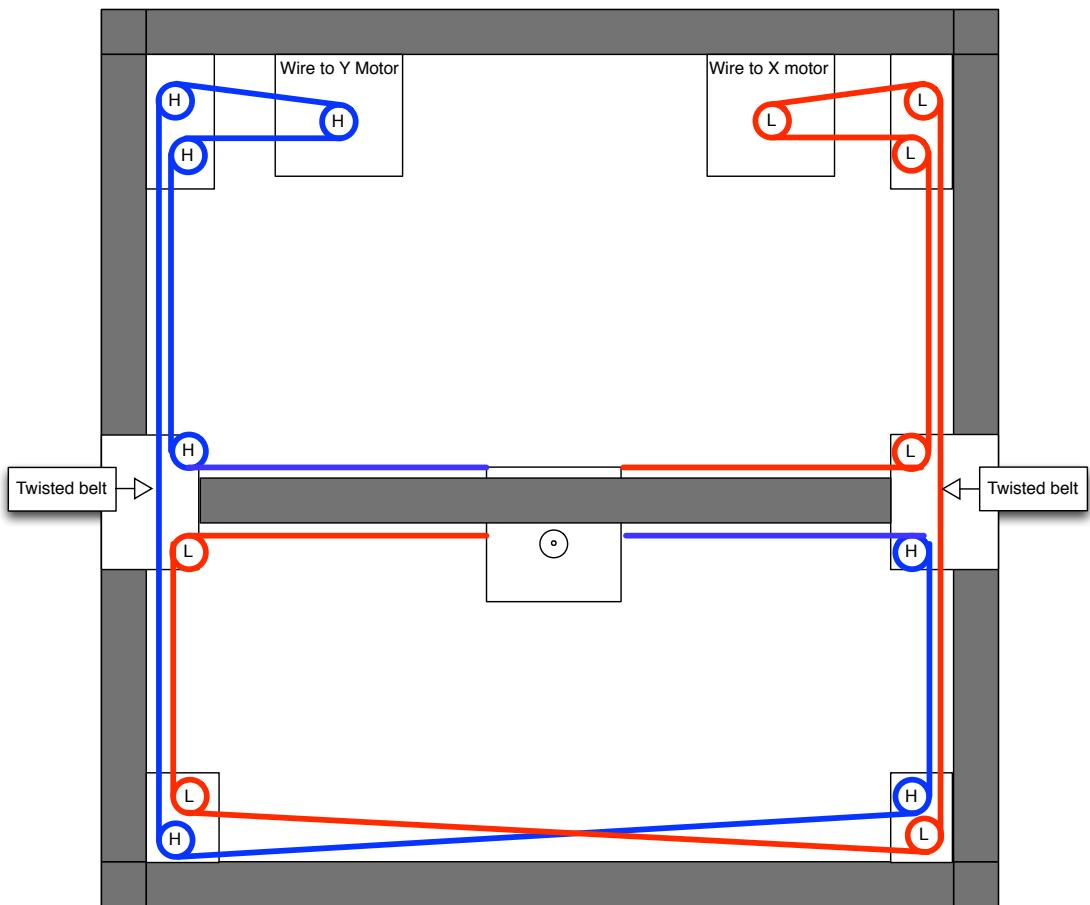

Figure 8: Belt layout configuration
The belt layout diagram is shown in Figure 8. H indicates bearings are on the top and spacer is at the bottom, and L indicates the bearings are at the bottom and spacer is on the top.
3. Feed the belt around the bearings following the Belt Layout Diagram. Run a twist in the belts on the y-axis which is closest to the v-slot so the back of the belt runs on the front idlers as indicated in Figure 8 and shown in Figure 21.